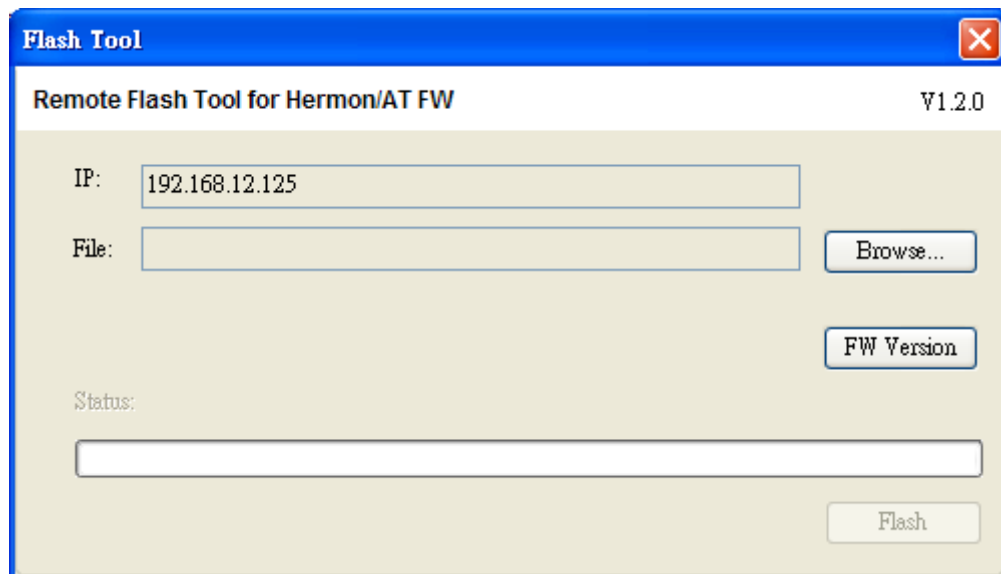

Figure E-2 Main Flash Screen
2. Make sure that you've selected the correct firmware for update, and click <OK>. The Main Flash Screen will display as shown in Figure E-2.